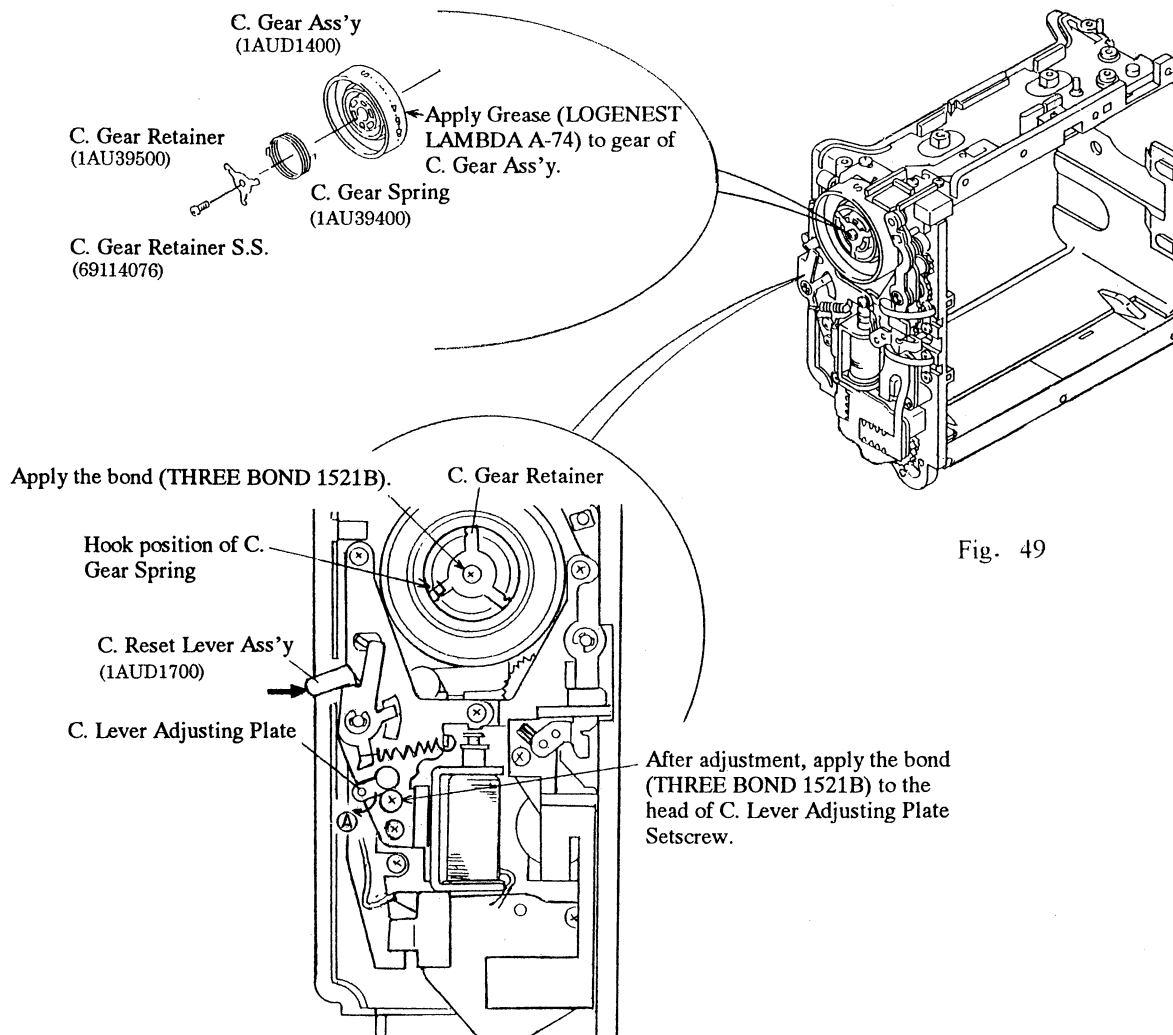

Fig. 49
(See Figs. 49 and 50)
- 9) Push the C. Reset Lever Ass'y (1AUD1700) in the direction of the arrow. (See Fig. 49)
If the C. Lever can not move completely by pushing, move the C. Lever Adjusting Plate in the direction of the arrow ①. (See Fig. 49)
Apply the bond (THREE BOND 1521B) to the head of the C. Lever Adjusting Plate Setscrew. (See Fig. 49)